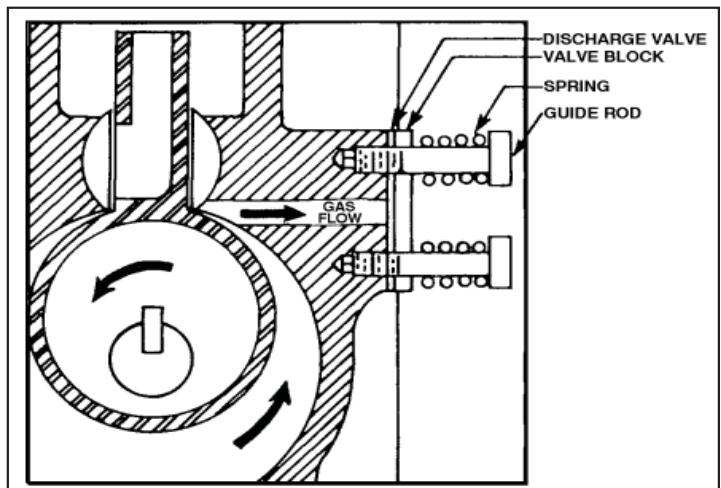

Figure 8. Typical Discharge Valve Assembly
1. Close off the pump inlet by means of a vacuum valve or short segment of manifolding as shown in Figure 8.